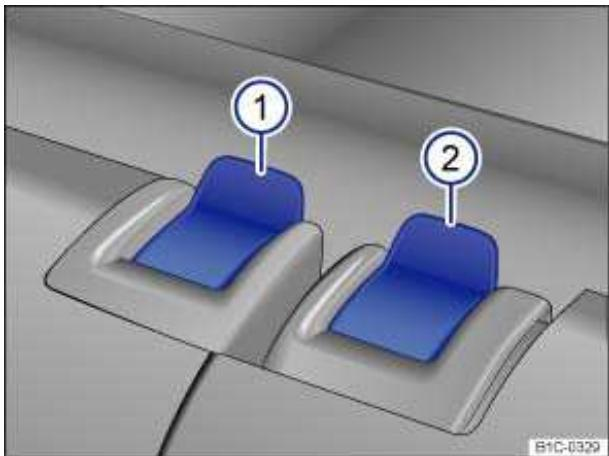

Fig. 76 Rear seat: release button right backrest 1, left backrest 2.
- Pull the release button \Rightarrow fig. 76 (1) or (2) forward while folding the rear backrest forward.